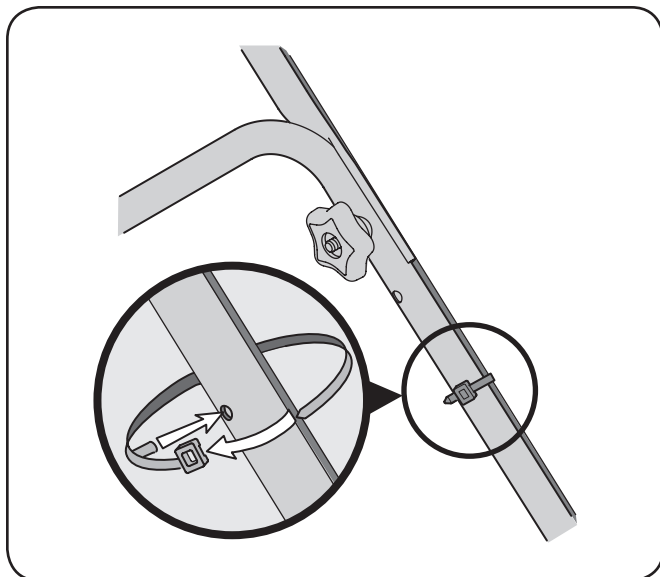

Figure 3-4
4. Insert post on cable tie into hole provided on the lower handle. Pull cable tie tight and trim excess. See Figure 3-4.